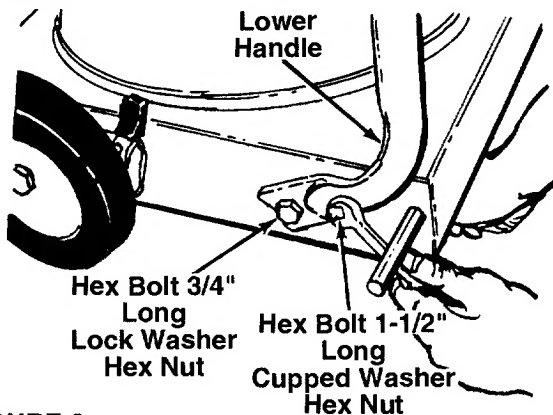

FIGURE 2.
2. Place lower handle in position on the vacuum, lining up the holes in the handle with the holes on the frame. See figure 2. Place hex bolts 3/4" long through lower hole in handle and frame. Secure with 3/8" lock washers and hex nuts on the inside of frame, finger tight only.